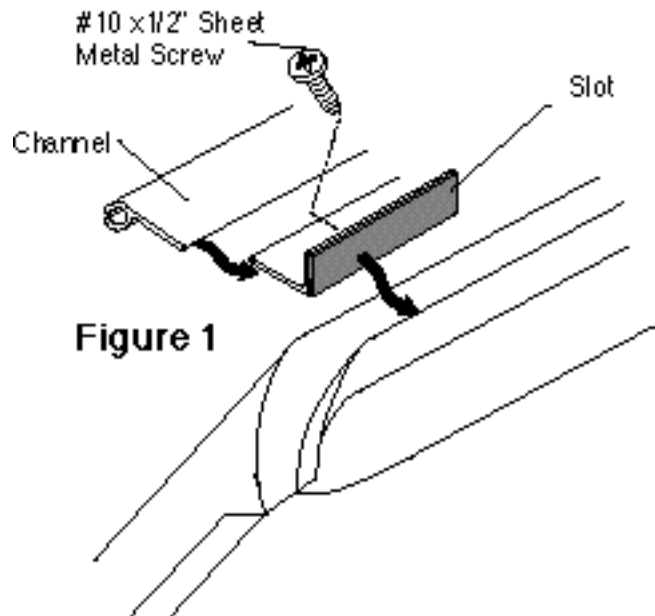

Figure 1
STEP 1. Your vehicle must be equipped with windshield slot and channel for this top to be installed properly. If you have already installed slot and channel disregard this step. If not you will have to order part #442-9440. Position windshield slot on top of windshield frame centered from side to side with the weather stripped edge toward the vertical flange on windshield frame. Place channel under slot. The channel will act as a shim to provide proper clearance between windshield frame and slot. Starting at the center mark and drill 1/8" hole using slot as a template. Secure to windshield frame with #10 x 1/2" sheet metal screw. Drill remaining holes one at a time and installing sheet metal screws as you go, making sure that gap between frame and slot remains constant from side to side. Channel should slide under slot with little resistance. Form ends of slot around windshield frame. See figure 1.